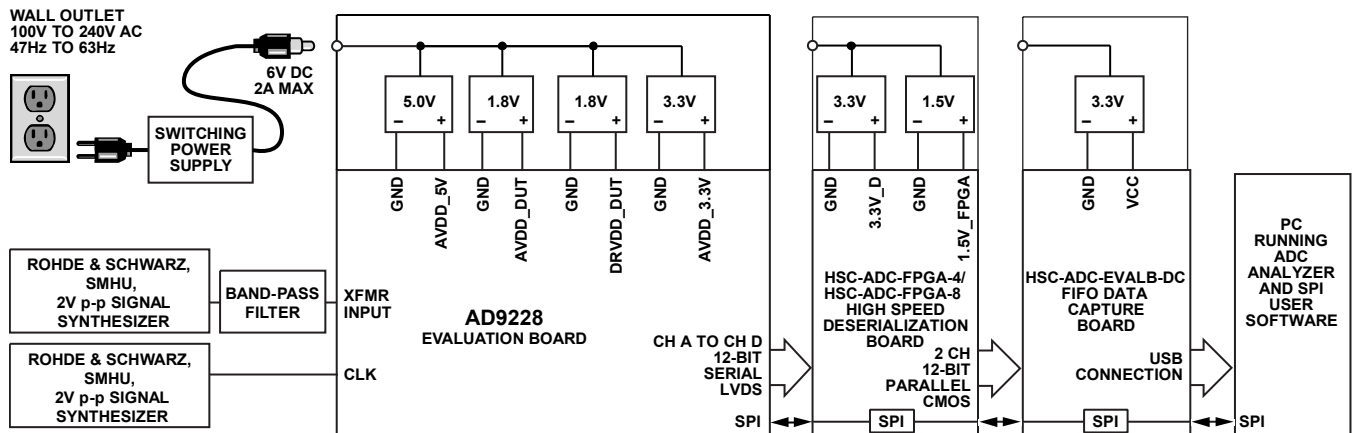
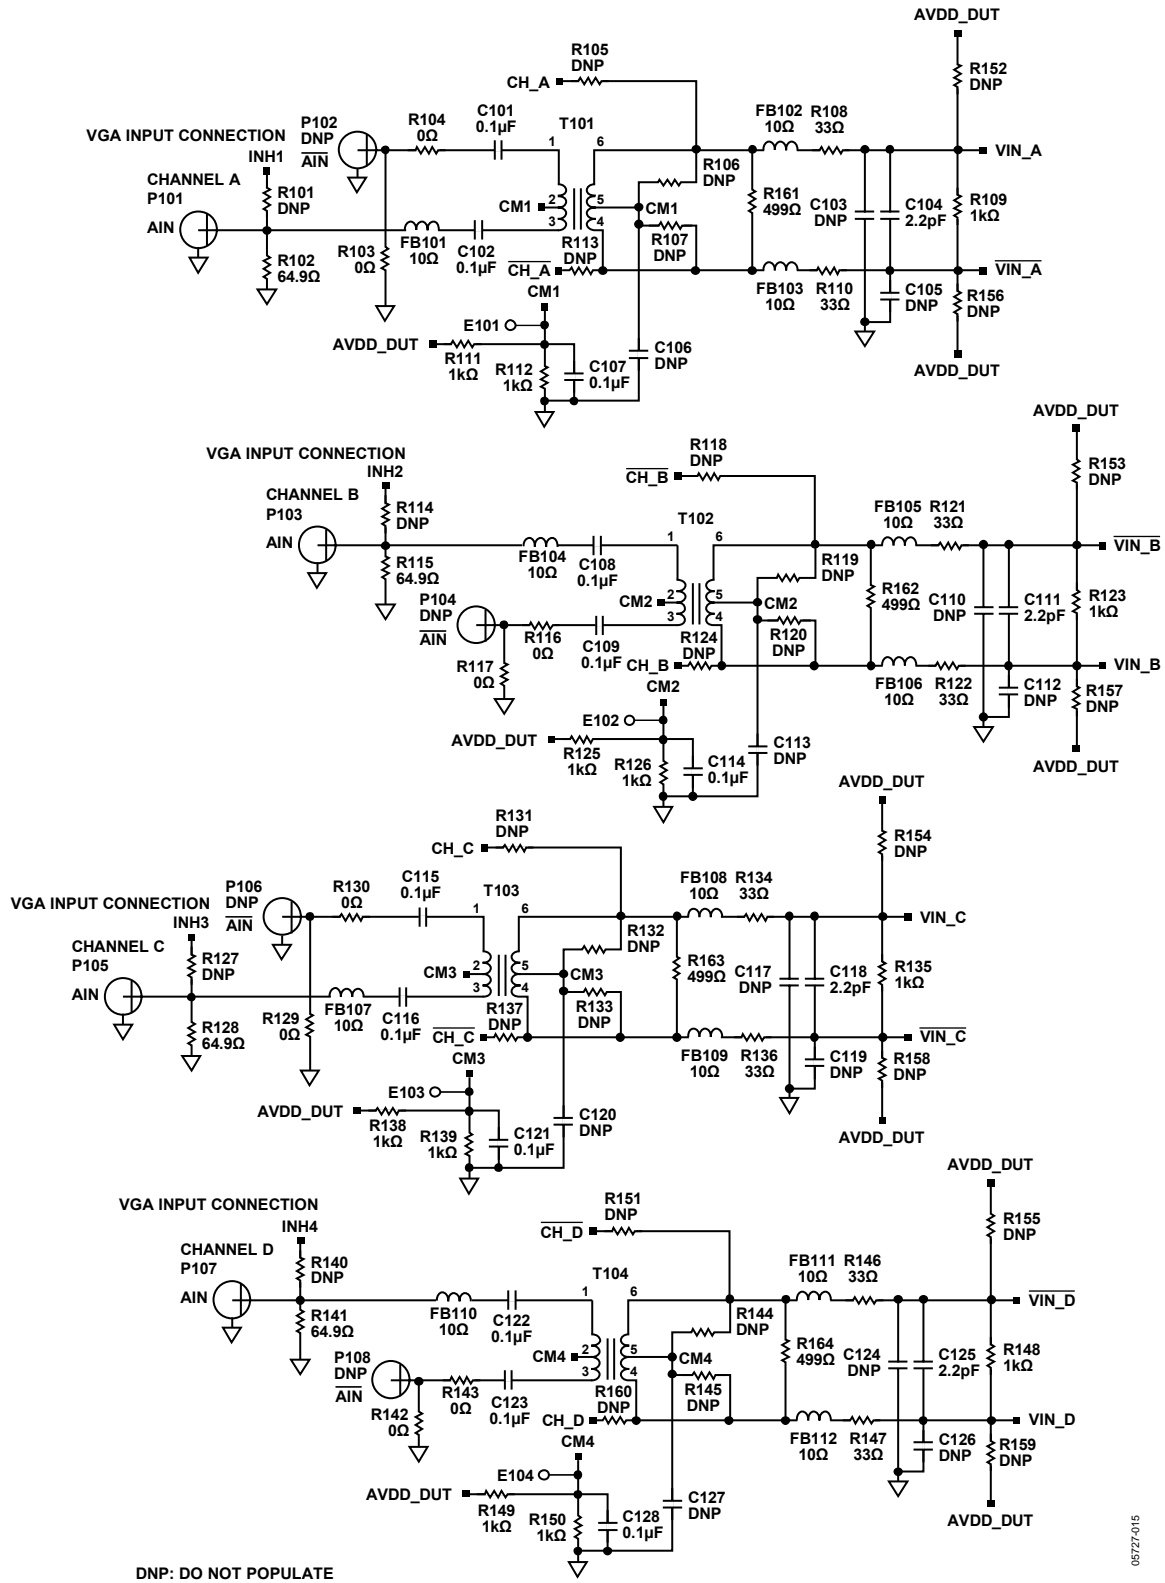
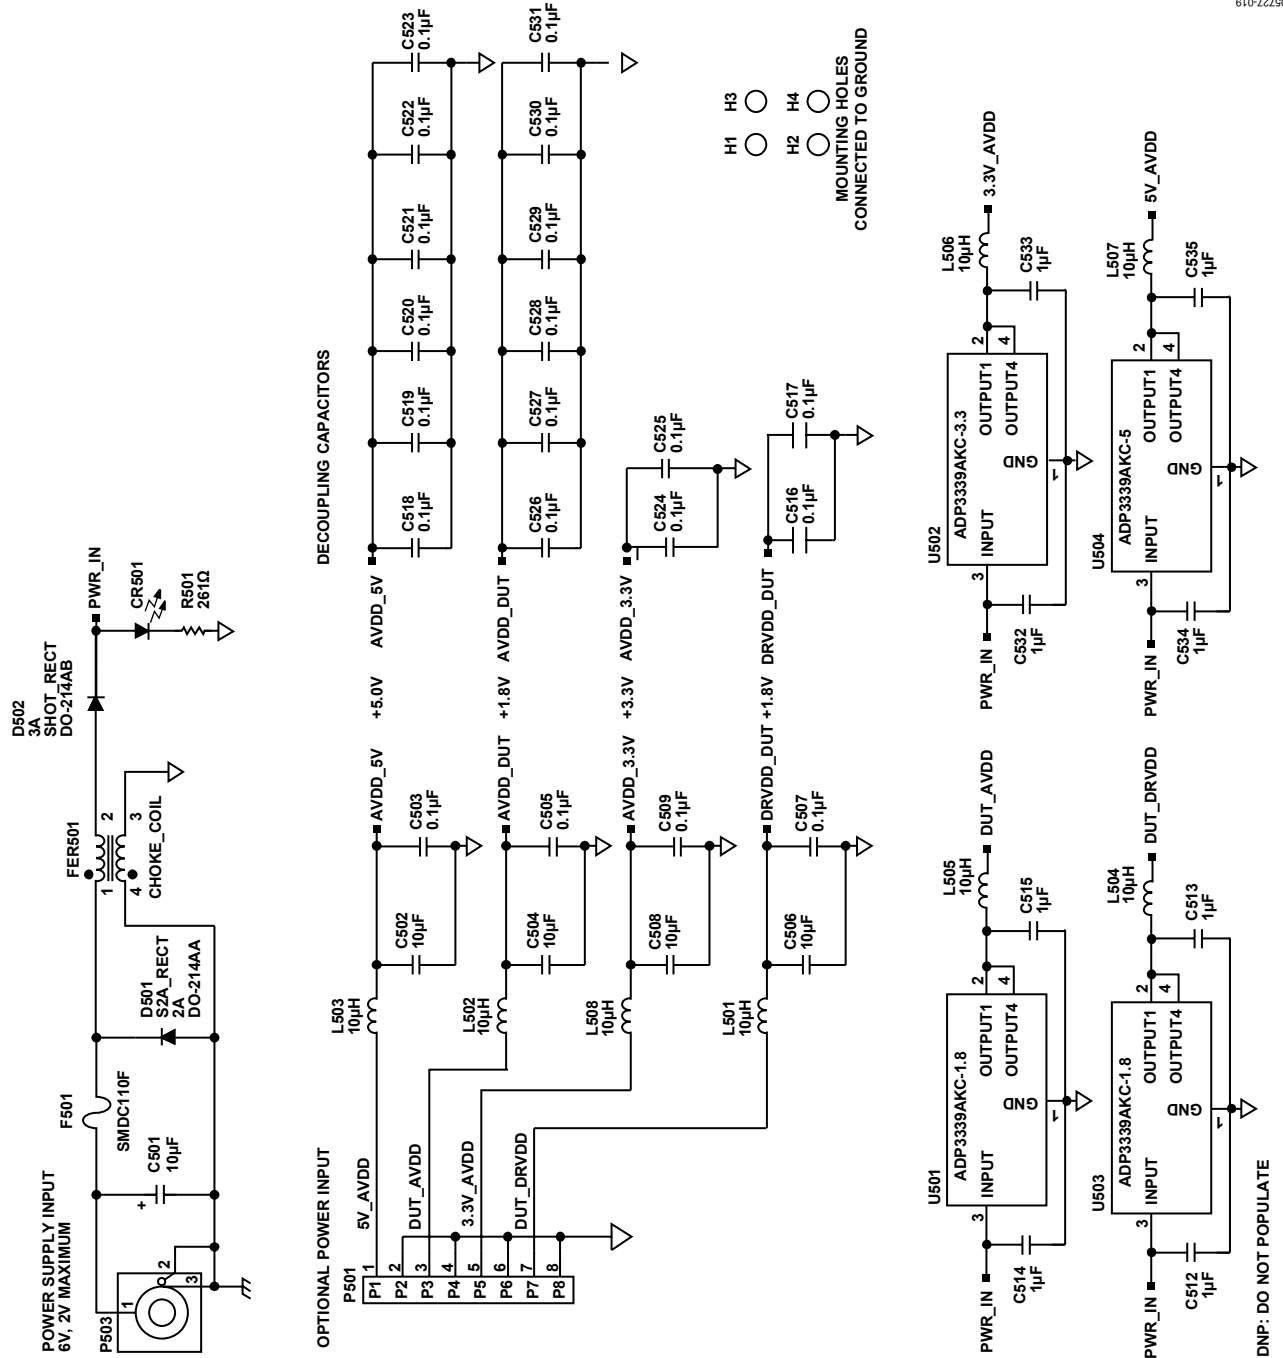

Figure 71. Evaluation Board Connection
Figure 73. Evaluation Board Schematic, DUT Analog Inputs
Figure 77. Evaluation Board Schematic, Power Supply Inputs
The AD9228 evaluation board provides all of the support circuitry required to operate the ADC in its various modes and configurations. The converter can be driven differentially using a transformer (default) or an AD8332 driver. The ADC can also be driven in a single-ended fashion. Separate power pins are provided to isolate the DUT from the drive circuitry of the AD8332. Each input configuration can be selected by changing the connection of various jumpers (see Figure 73 to Figure 77). Figure 71 shows the typical bench characterization setup used to evaluate the ac performance of the AD9228. It is critical that the signal sources used for the analog input and clock have very low phase noise (<1 ps rms jitter) to realize the optimum performance of the converter. Proper filtering of the analog input signal to remove harmonics and lower the integrated or broadband noise at the input is also necessary to achieve the specified noise performance.
See Figure 73 to Figure 81 for the complete schematics and layout diagrams demonstrating the routing and grounding techniques that should be applied at the system level.
- **D + x, D - x:** If an alternative data capture method to the setup shown in Figure 73 is used, optional receiver terminations, R206 to R211, can be installed next to the high speed back-plane connector.